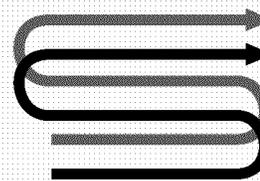
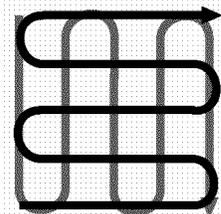

Figure 4-6
Figure 4-7
- When preparing a seedbed, go over the same path twice in the first row, then overlap one-half the tiller width on the rest of the passes (see Figure 4-6). When finished in one direction, make a second pass at a right angle as shown in Figure 4-7. Overlap each pass for best results (in very hard ground, it may take three or four passes to thoroughly pulverize the soil.)